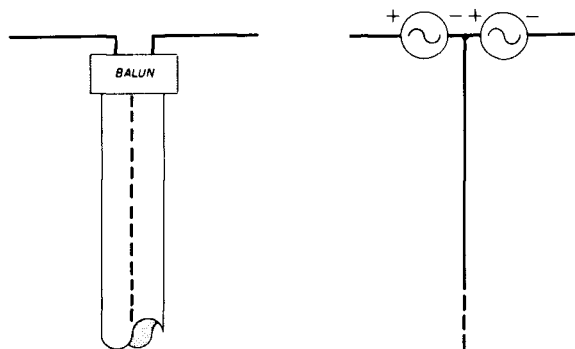

fig. 2. A dipole fed through a balancing device will appear as two balanced generators. In this case there is no radiation from the feedline.
**Fig. 2** shows the effect using a balancing device. Electrically the dipole is now fed by the two generators. The important point to be understood is that the electric field in space is zero in the plane perpendicular to and passing through the center of the dipole. Because of this, conductors may be placed in this plane without changing antenna operation in any way. Thus, if the coaxial feedline is brought away from the antenna at right angles it will not disturb antenna operation; there will be no rf current flowing on the outside braid so there is no radiation from the feedline. Other conductors that are normally in this plane, such as a mast or the metal boom of a Yagi array, will also have no effect on antenna operation.
**Approach:** You will have to occasionally refer to the equations of **table 1** in what follows. However, we want to do something other than just solve a string of equations and become bored. To do this we will use the Smith impedance chart shown in **fig. 2**. The Smith chart is sort of a motion picture version of the famous transmission line eq. 5 in **table 1**. One important feature of the chart is that it lets you actually "see" what goes on as an impedance "moves" along the analog line (monopole), changing its magnitude as it travels to some particular place on the line.
Up at the very top of the Smith chart in fig. 2 is a point on the inside rim edge where  $Z = K_m (0 + j0)$  ohms. This is "home plate" in the ball game we will play on this Smith chart "diamond." When the objective is to resonate an antenna at a desired frequency, we *always* have to reach "home plate."